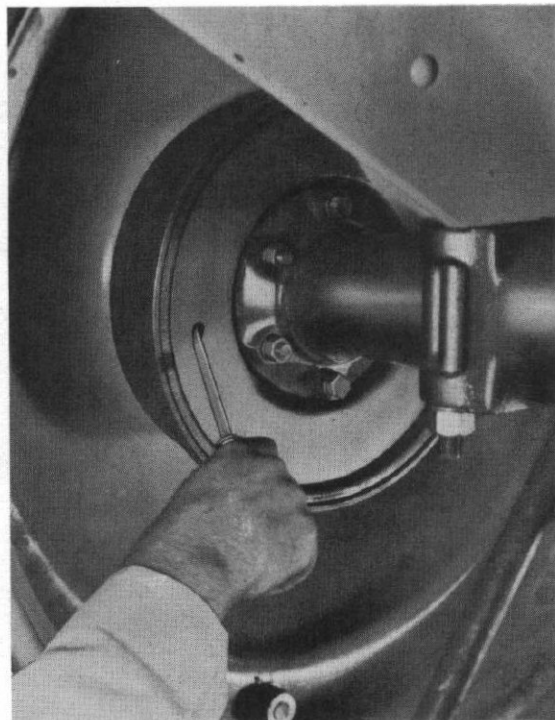

Fig. 2
Step 3—Turn the notched adjusting screw (Figure 2) toward the rear of the tractor until the wheel can no longer be turned. Then turn the adjusting screw in the opposite direction until just a slight drag can be felt in turning the wheel. (Adjust both wheels.)